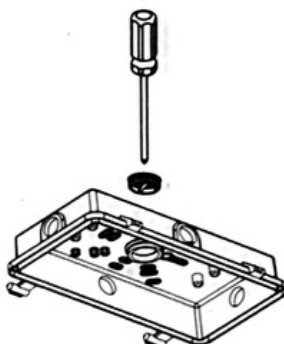

Figure 1-2
2. Loosen the 3/4 plug on the driver box cover by screwdriver; Figure 1-2